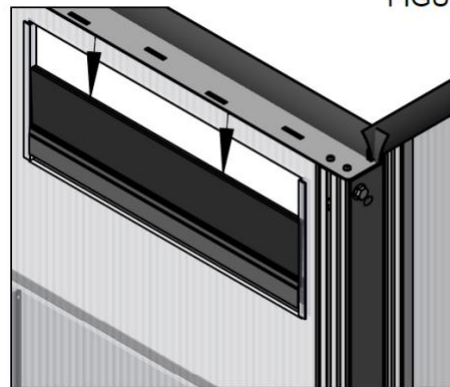

FIGURE 3.
3. Install the lower brush assembly onto the panel as shown in Figure 3. In a similar manner, install the upper brush assembly into the upper edge with the bristles directed downward.